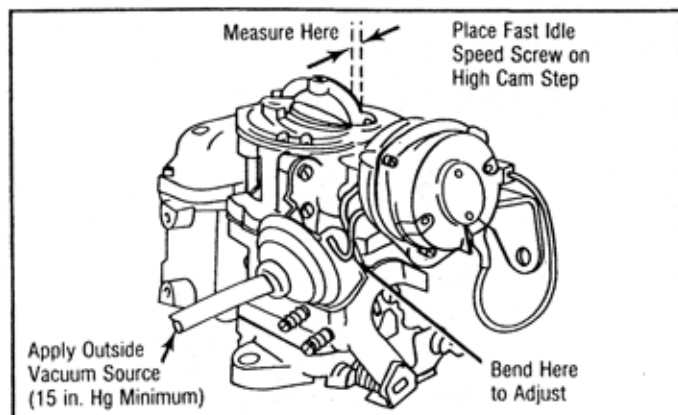

Fig. 13 Initial Choke Valve Clearance Adjustment (Models With Choke Vacuum Diaphragm)
1. Place fast idle speed screw on high step of fast idle cam. See Fig. 13.